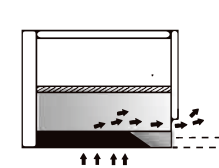
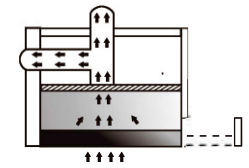

Fig.12
Fig.13
- The hood may be installed in the filtering (Fig.12) or the ducting version (Fig.13).
**Ducting version (Fig.13):**